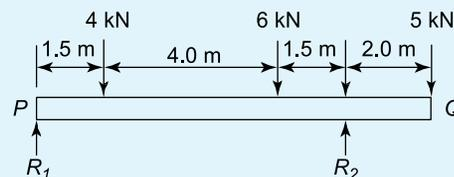

Figure 5.20
6. For the simply supported beam  $PQ$  shown in Figure 5.20, determine (a) the reaction at each support (b) the maximum force which can be applied at  $Q$  without losing equilibrium.